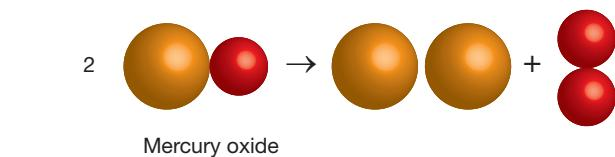

Figure 2.1 Models of the rearrangement and conservation of atoms in chemical reactions.
The illustrations in Figure 2.1 show some examples of how you could model these concepts.
1. Answer the following questions about the models illustrated in Figure 2.1.